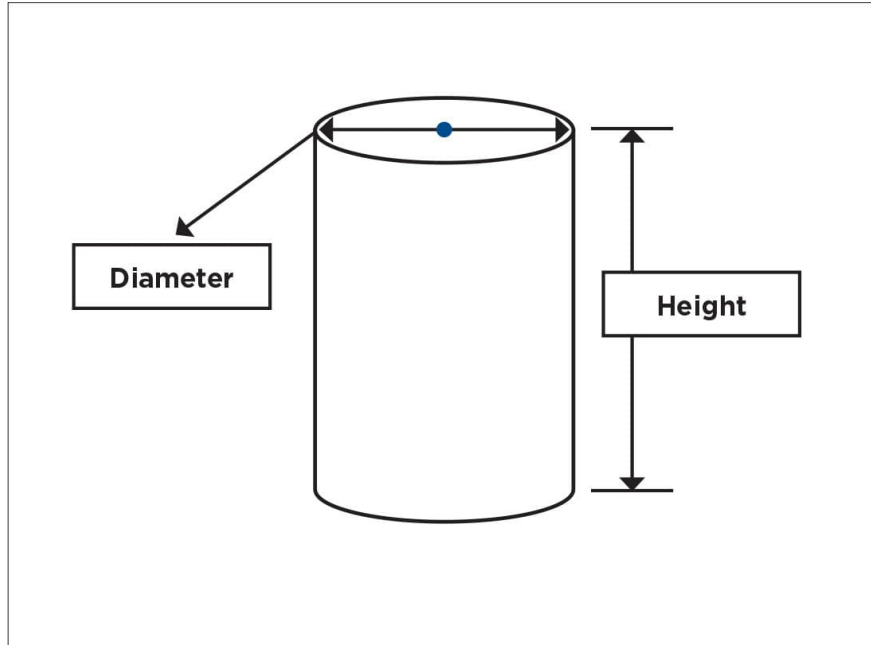

FIG. 1: A cylinder sketch showing height and diameter.
Remember that a basic 3D shape with straight edges, such as a cube, has dimensions measured in length, width, and height. For shapes with curved edges, such as cylinders, the size of the curved part is measured by the radius or diameter. The radius is the distance from the center of the base to the edge of the curve, and the diameter is two times the radius, or the distance from side to side running through the center. Learning these names will help you when designing curved objects. Fig. 1 shows the measurement terms for the curved-edge shapes.
1. Start by drawing a sketch of a cylinder (see the fig. 1 for guidance).